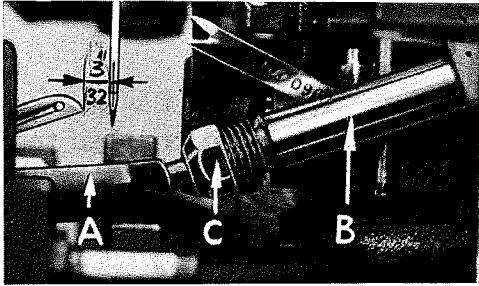

Fig. 4
At this point, insert lower looper (A, Fig. 4) into bar (B). With lower looper at left end of its stroke, set looper point  $\frac{3}{32}$  inch from center of needle (Fig. 4), using looper gauge No. 21225-3/32. Do not have lower looper deflecting needle. Tighten nut (C).